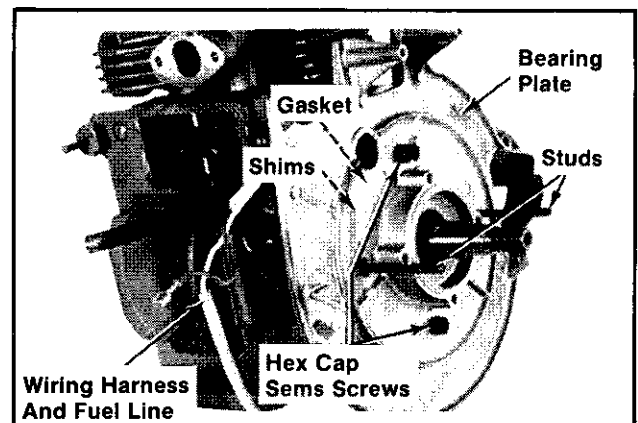

Figure 12A-10. Installing Wiring Harness And Bearing Plate.
1. Install 1/4-20 studs into two bearing plate mounting holes. The studs ease locating and assembly of shims, gasket, and bearing plate. Refer to Figure 12A-10.